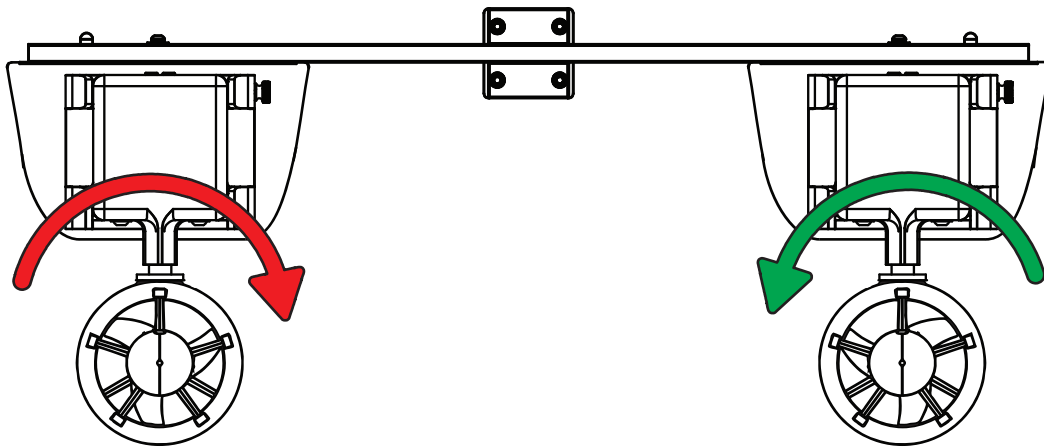

Figure 30: Hydroner™ RCV Servo Prop Rotation
- Motor must rotate clockwise(CW) (Figure 30)
- Motor must rotate counter-clockwise(CCW) (Figure 30)